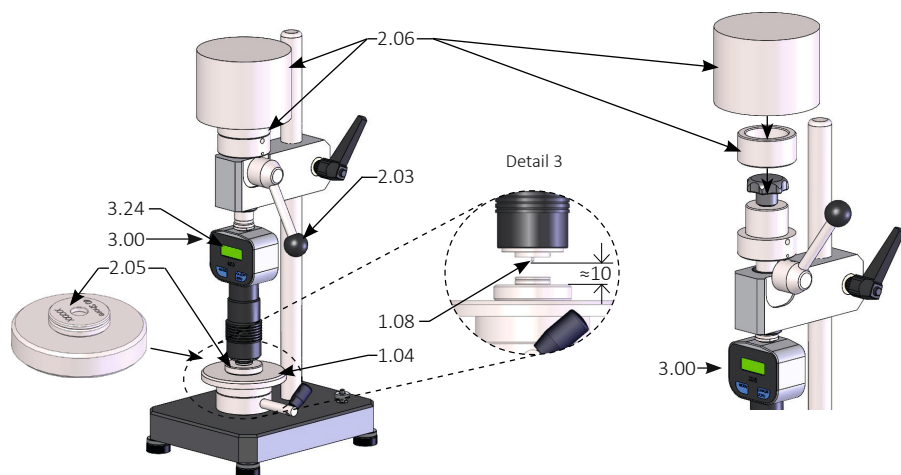

Fig. 5 Alignment of the specimen table Shore D, C, D0
- › Always make sure your hand is firmly holding the mounting device (2.00) when releasing the clamping lever (2.02) to avoid a sudden drop of the mounting device and hardness tester. The crash of the hardness tester on the specimen table may cause damage to the indenter (1.08, Fig. 5).
- › Slowly move down the hardness tester (3.00) until the tip of its indenter is approx. 10 mm above the center hole of the Control Ring (see Detail 3, Fig. 5).
Place the Control Ring 40 Shore with its base plate (2.05, Fig.5) on the specimen table. Position the indenter of the hardness tester about 10 mm directly above the center hole of the Control Ring.